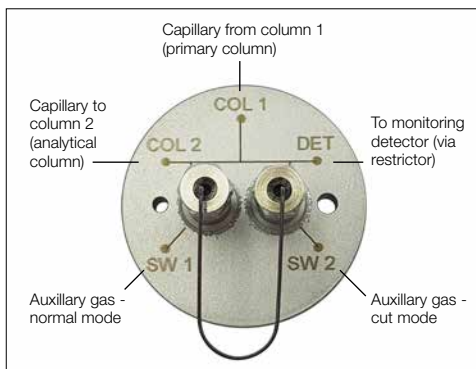

Figure 5. Identifying Deans' switch port locations.
- Identify the appropriate port locations marked on the back of the SilFlow Deans' switch (Figure 5). Locate the appropriate SilFlow ferrules and nuts and prepare to connect the relevant tubing to the SilFlow Deans' switch.